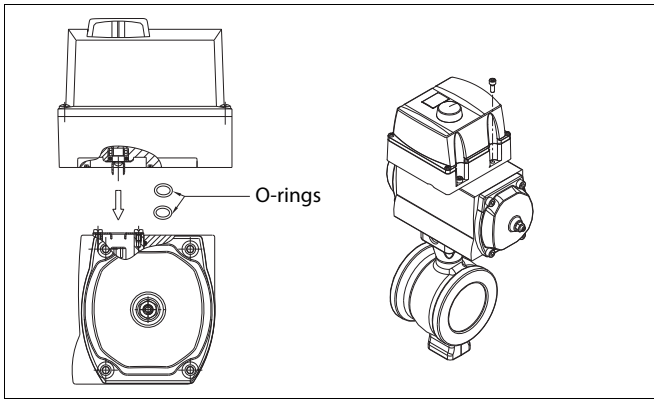

Fig. 3 Mounting on EC and EJ actuators, ND9100 and ND7100
- ☐ Mount the U-shaped coupling (47) to the shaft. Apply thread-locking compound to the screws (48) and tighten firmly.
- ☐ Remove all protective plastic plugs (5 pcs.) from all pneumatic connections. Mount the metal plugs (53) to the unused controller connections with sealant. For EJ (single acting, spring to close) and EJA (single acting, spring to open) actuators, mount a metal plug (54) with sealant to the C1 connection at the bottom of the controller.
- ☐ Mount the O-ring (49) into the square groove in the bottom of the controller.
- ☐ Place the valve controller on top of the actuator so that the pointer of the shaft washer (16) is located in the position shown in Fig. 3.
- ☐ Fasten the screws (4).